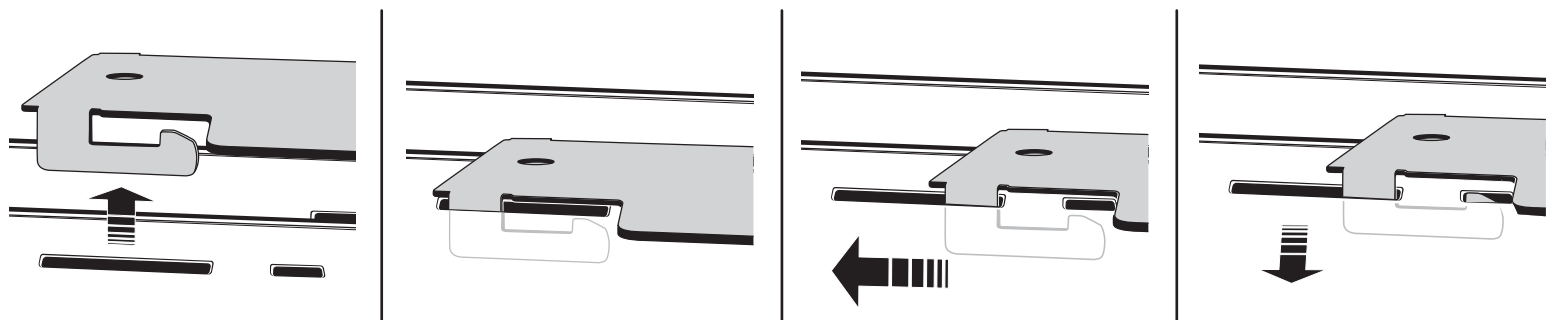

Fig. 7
5. Fully insert all 4 shift plate tabs into the shift plate mounting slots (**Fig. 7**). Shift the fixture the opposite way the tabs are pointing, until it stops and slowly release the fixture.